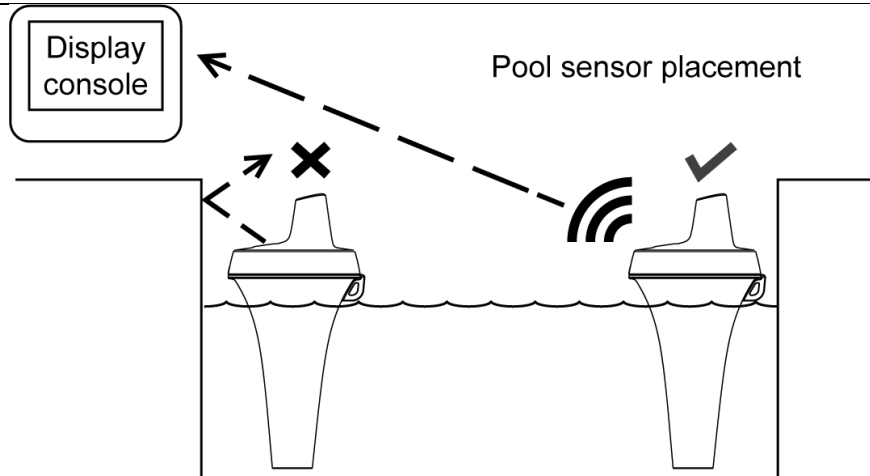

Figure 6
2. Avoid transmitting through solid earth or ground (Figure 6, X)